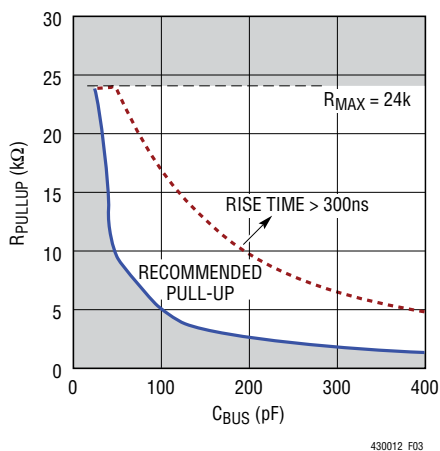

Figure 3. Bus Requirements for 3.3V Systems
**SCLOUT (Pin 2):** Serial Clock Output. Connect this pin to the SCL bus on the card. See Figures 3 and 4 for bus pull-up resistance and capacitance requirements.
**SCLIN (Pin 3):** Serial Clock Input. Connect this pin to the SCL bus on the backplane. See Figures 3 and 4 for bus pull-up resistance and capacitance requirements.
**SDAIN (Pin 6):** Serial Data Input. Connect this pin to the SDA bus on the backplane. See Figures 3 and 4 for bus pull-up resistance and capacitance requirements.
**SDAOUT (Pin 7):** Serial Data Output. Connect this pin to the SDA bus on the card. See Figures 3 and 4 for bus pull-up resistance and capacitance requirements.
In addition, regardless of the bus capacitance, always choose  $R \leq 16k$  for  $V_{CC} = 5.5V$  maximum,  $R \leq 24k$  for  $V_{CC} = 3.6V$  maximum. The start-up circuitry requires logic high voltages on SDAOUT and SCLOUT to connect the backplane to the card, and these pull-up values are needed to overcome the precharge voltage. See the curves in Figures 3 and 4 for guidance in resistor pull-up selection.
The LTC4300 I/O connection circuitry requires a minimum capacitance loading on the SDA and SCL pins in order to function properly. The value of this capacitance is a function of  $V_{CC}$  and the bus pull-up resistance. Estimate the bus capacitance on both the backplane and the card data and clock busses, and refer to Figures 3 and 4 to choose appropriate pull-up resistor values. Note from the figures
NOTE: APPLICATION ASSUMES BUS CAPACITANCES WITHIN "PROPER OPERATION" REGION OF FIGURES 3 AND 4